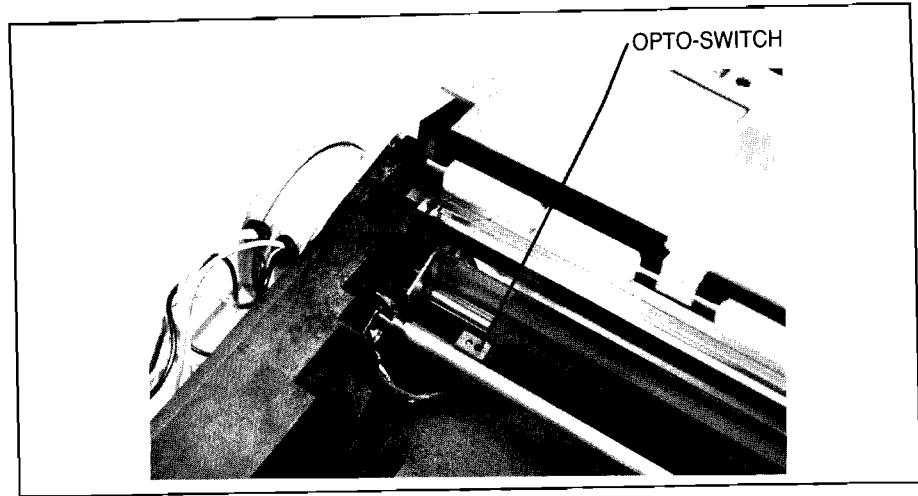

Figure 4-5. Opto-Switch Location
5. Place a small piece of paper over the opto-switch (Figure 4-5) located inside TPM mainframe near the right side. It may help to tape this piece of paper down to prevent the print head movement from sweeping it away.